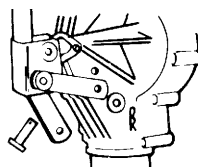

Figure 4
- b. Remove clevis pin from housing to free links (Ref. No. 8). See Figure 4.